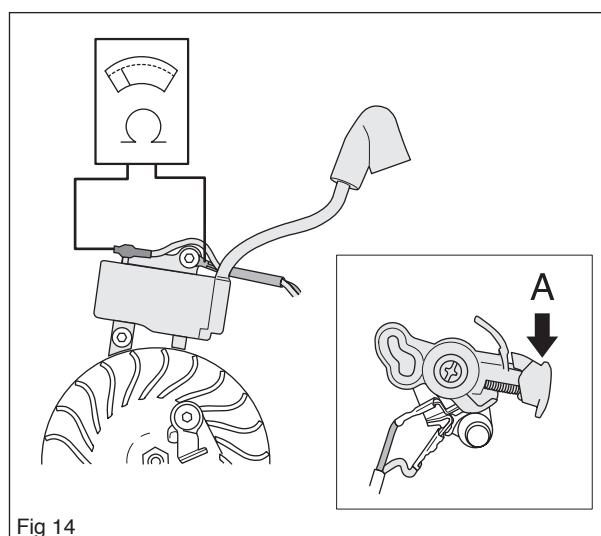
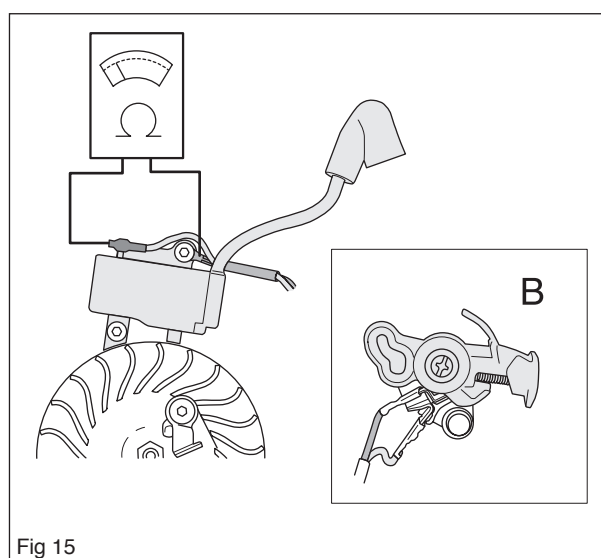

Fig 14
Fig 15
Cut off the starlock washer and pull out the control from the shaft on the filter holder.(see figure 14)
Measure the resistance by connecting a multimeter to the ignition coil. NOTE! The switch must be in the “on” (A) position to give the correct reading (see figure 14).
The stop switch is in the on position when the button is held down (A) (see figure 14) and in the off-position the button is neutral (B) (see figure 15).